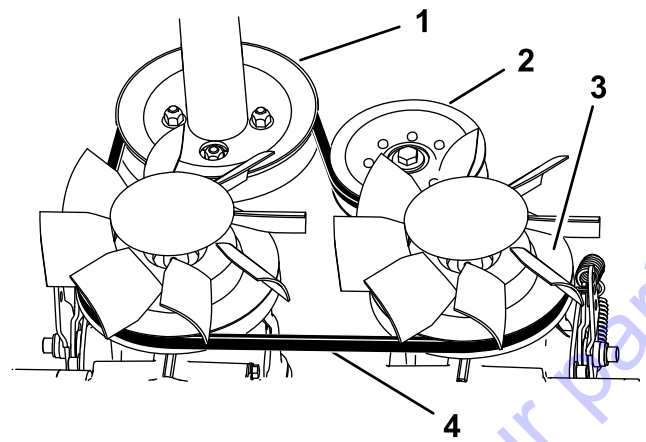

Figure 41
3. Transmission pulley (2)
9. Route the new belt around the engine pulley and 2 transmission pulleys (Figure 41).